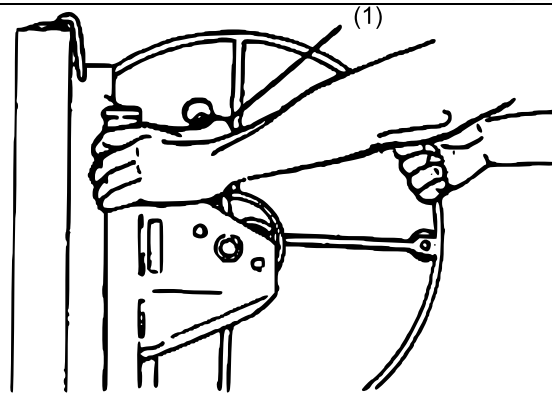

Figure 3
- b. Raise the brake arm all the way up. Grasp the winch post, and grip the brake arm firmly with your thumb (1) (Fig. 3).